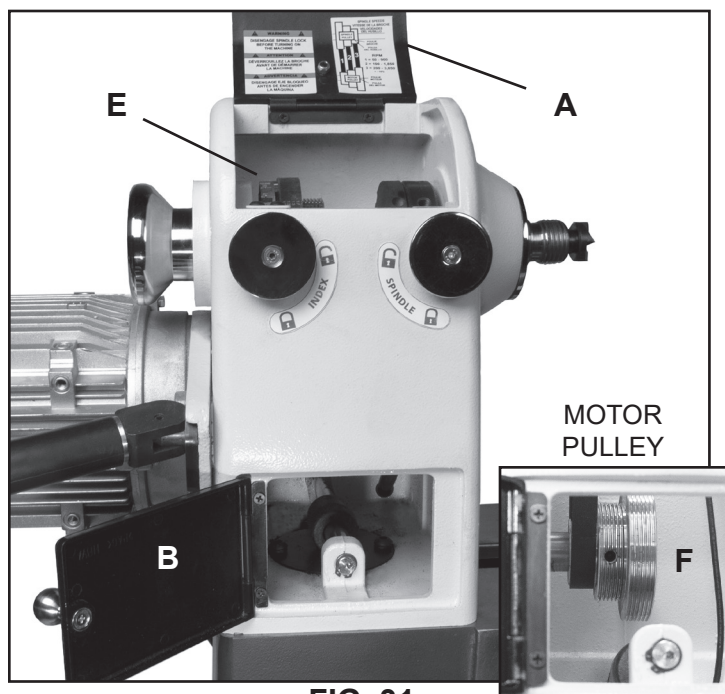

FIG. 31
2. Open the 2 Belt Doors (FIG. 31, A & B) to gain access to the belt and pulleys (E & F) that are inside of the headstock.